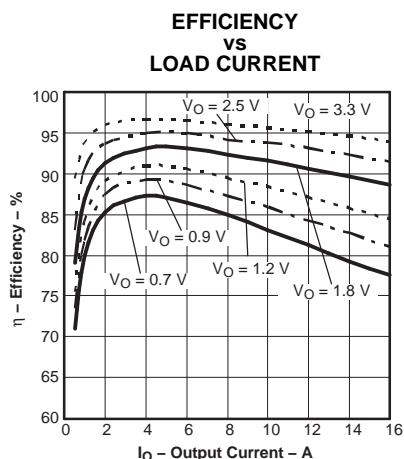
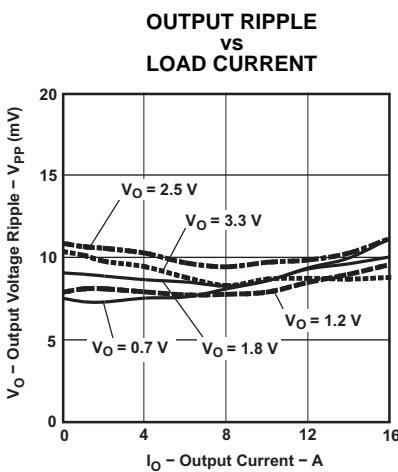
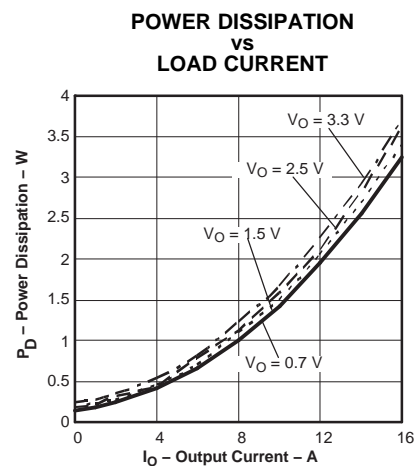

Figure 7.
Figure 8.
Figure 9.
- (1) The electrical characteristic data has been developed from actual products tested at 25°C. This data is considered typical for the converter. Applies to Figure 7, Figure 8, and Figure 9.